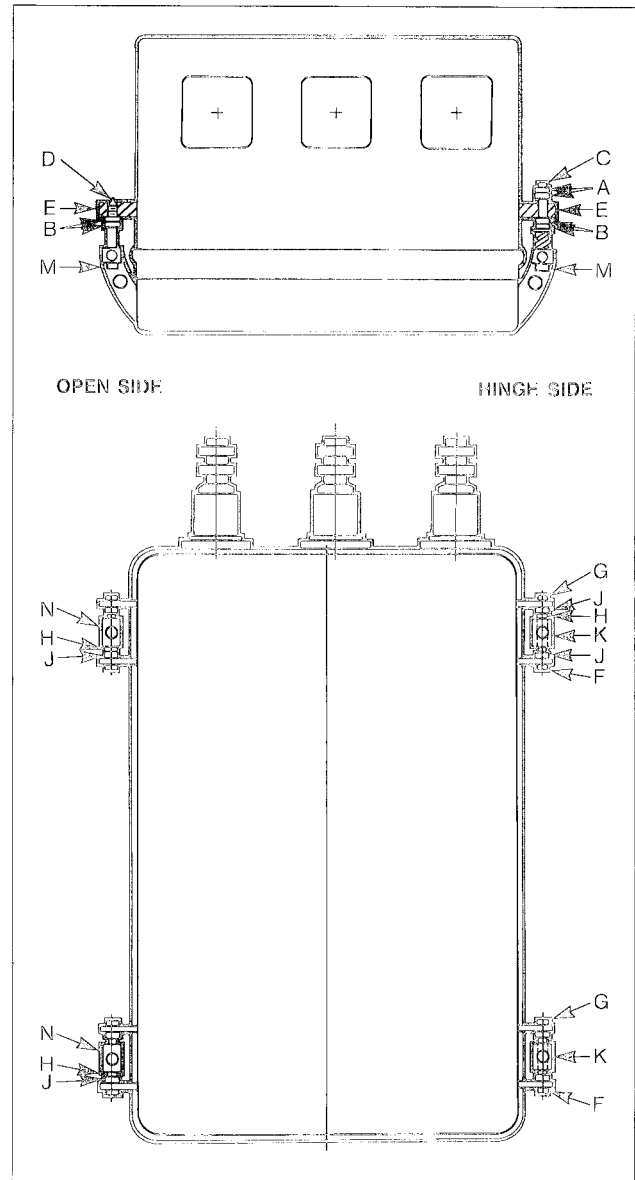

FIG. 17 Sliding Hinge Details
1. The cover may be removed from the housing so that the work may be done more readily since no centering adjustments are disturbed by removing the cover. Referring to Fig. 17, take out the cotter pins and the stop nuts "A" on the bolts "C" on the hinged side. The hinge bolts should be loosened first about 1/2-inch so that when the bolts "D" on the opening side are loosened, all gasket pressure is released before any bolts are completely removed. The removal of the clamping and hinge bolts from the blocks "E" will then free the cover from the housing.